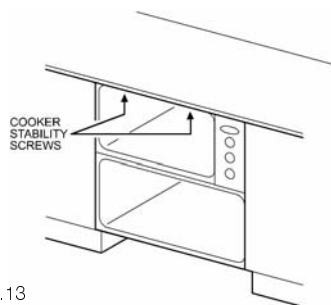

Fig.13
- When the appliance is fully housed, screw the stability screws (supplied with the appliance) into the underside of the worksurface in the positions indicated (see Fig. 13), taking care not to distort the trim. It is advisable to turn each screw alternatively to avoid damaging the trim.